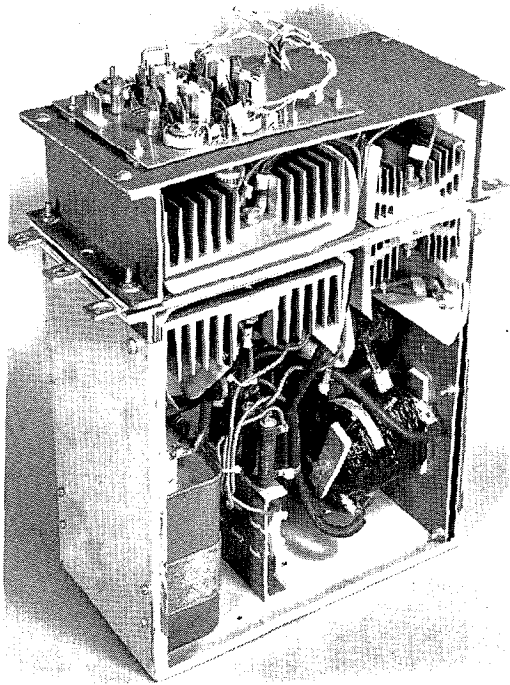

FIGURE 24
2. Stand the phase module on its back side on a 30" high table. The pulse transformer printed circuit card should be on top. (Normally on the front of the inverter phase module). See Figure 24.